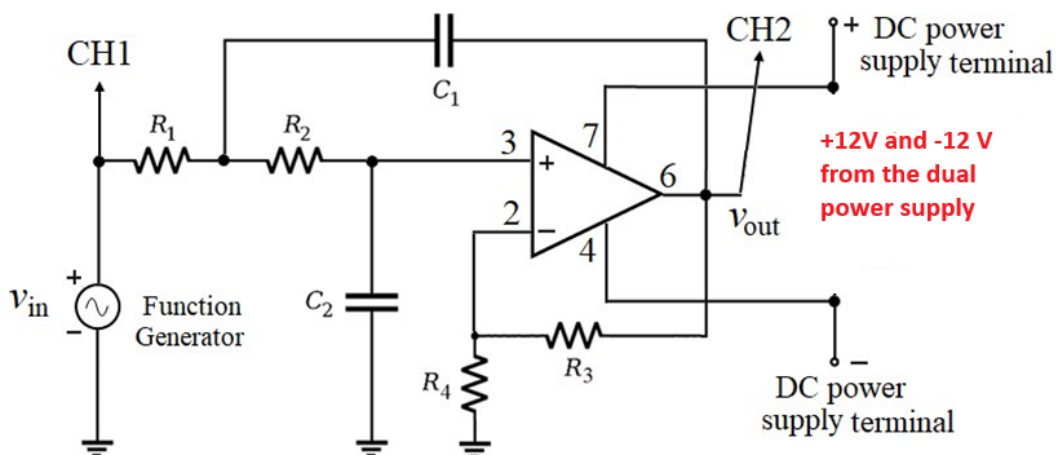

Figure 1: Active Low Pass Filter
1. Construct the circuit as shown in Figure 1.